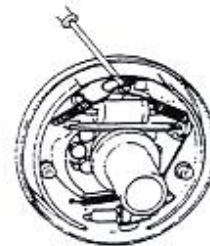

Figure 2-12
(2) Remove the return spring on the shoe. See figure 2-12